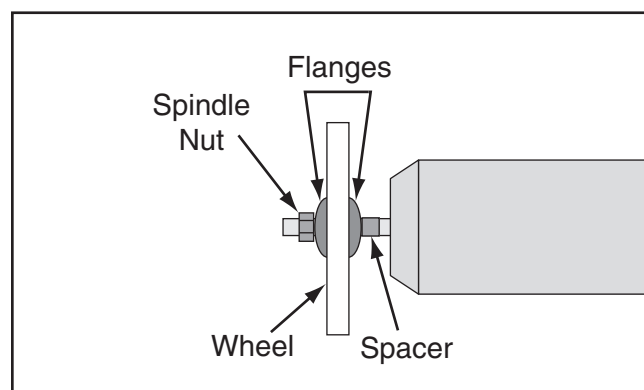

Figure 15. Buffing wheel order of installation.
2. Remove spindle nut and outer flange from each spindle shaft (see **Figure 15**). DO NOT remove inner flange or spacer.
3. Remove old buffing wheels (if installed) and install desired buffing wheels between inner and outer wheel flanges (see **Figure 15**).